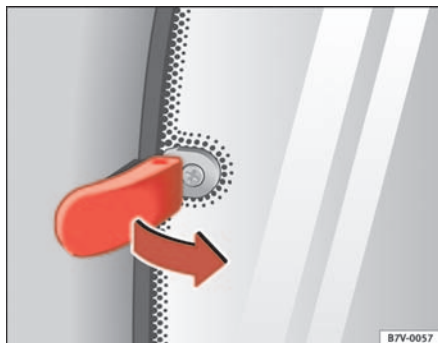

Fig. 65 Release lever for mechanical vent wing
- Pull the release lever ⇒ fig. 65 in the direction of the arrow and push it out at the same time until the lever engages.